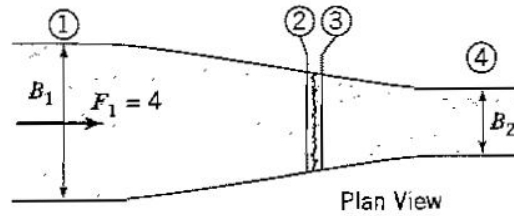

Figure P10.46
10.46 Consider the steady open channel flow of water in the smooth constriction shown in plan view in Figure P10.46. At position 1, the depth is Y_1 , the width is B_1 and the Froude number $F_1 = 4$. A similar notation is used at positions 2, 3 and 4. A hydraulic jump is observed just downstream of position 2 where the Froude number $F_2 = 2$. You may assume one-dimensional flow.